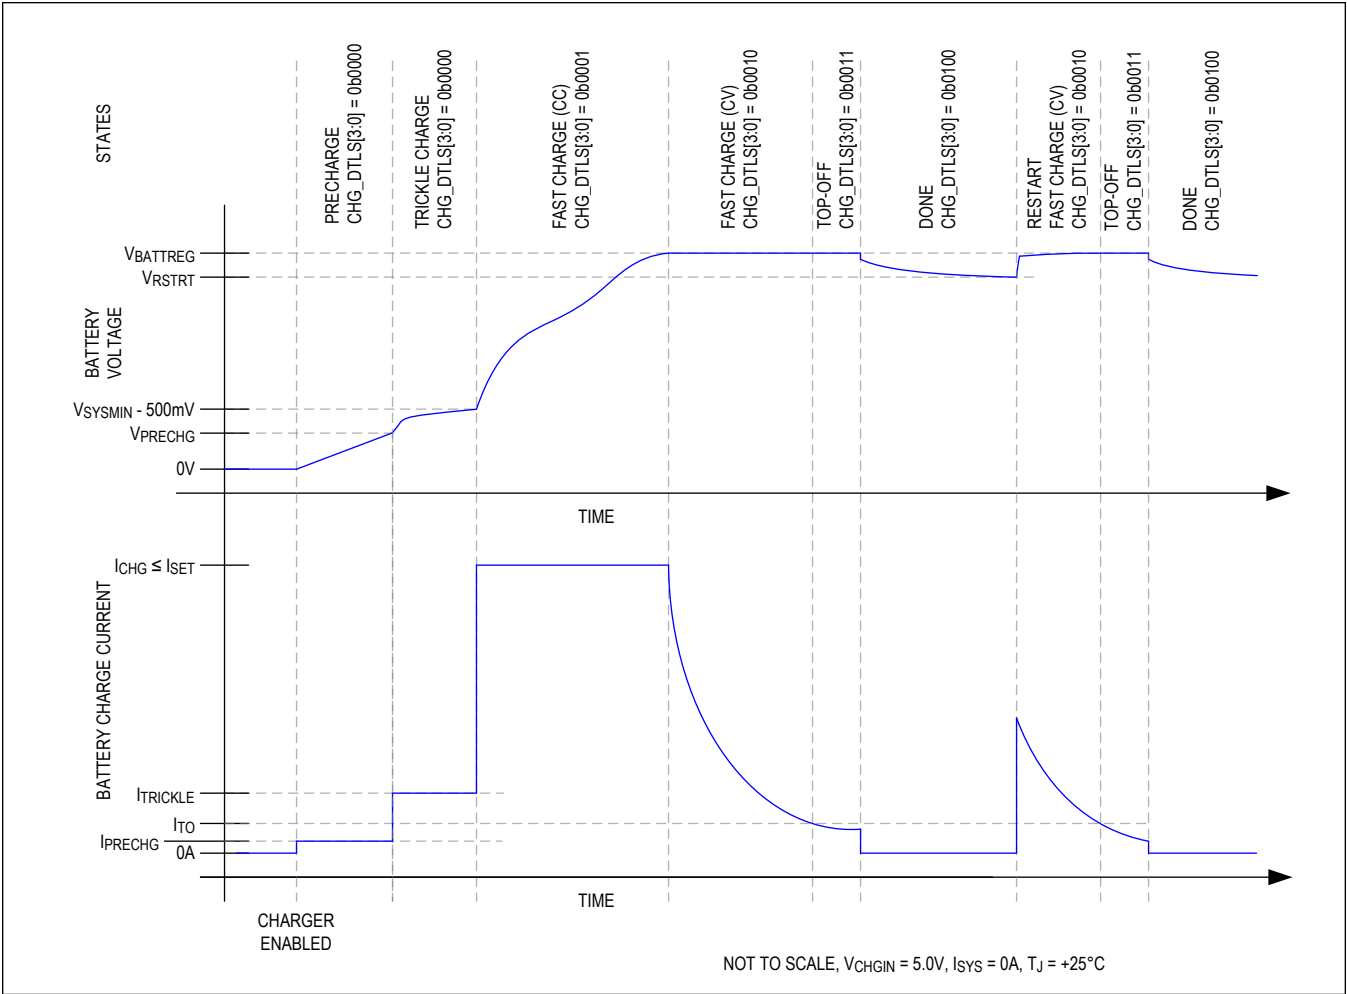
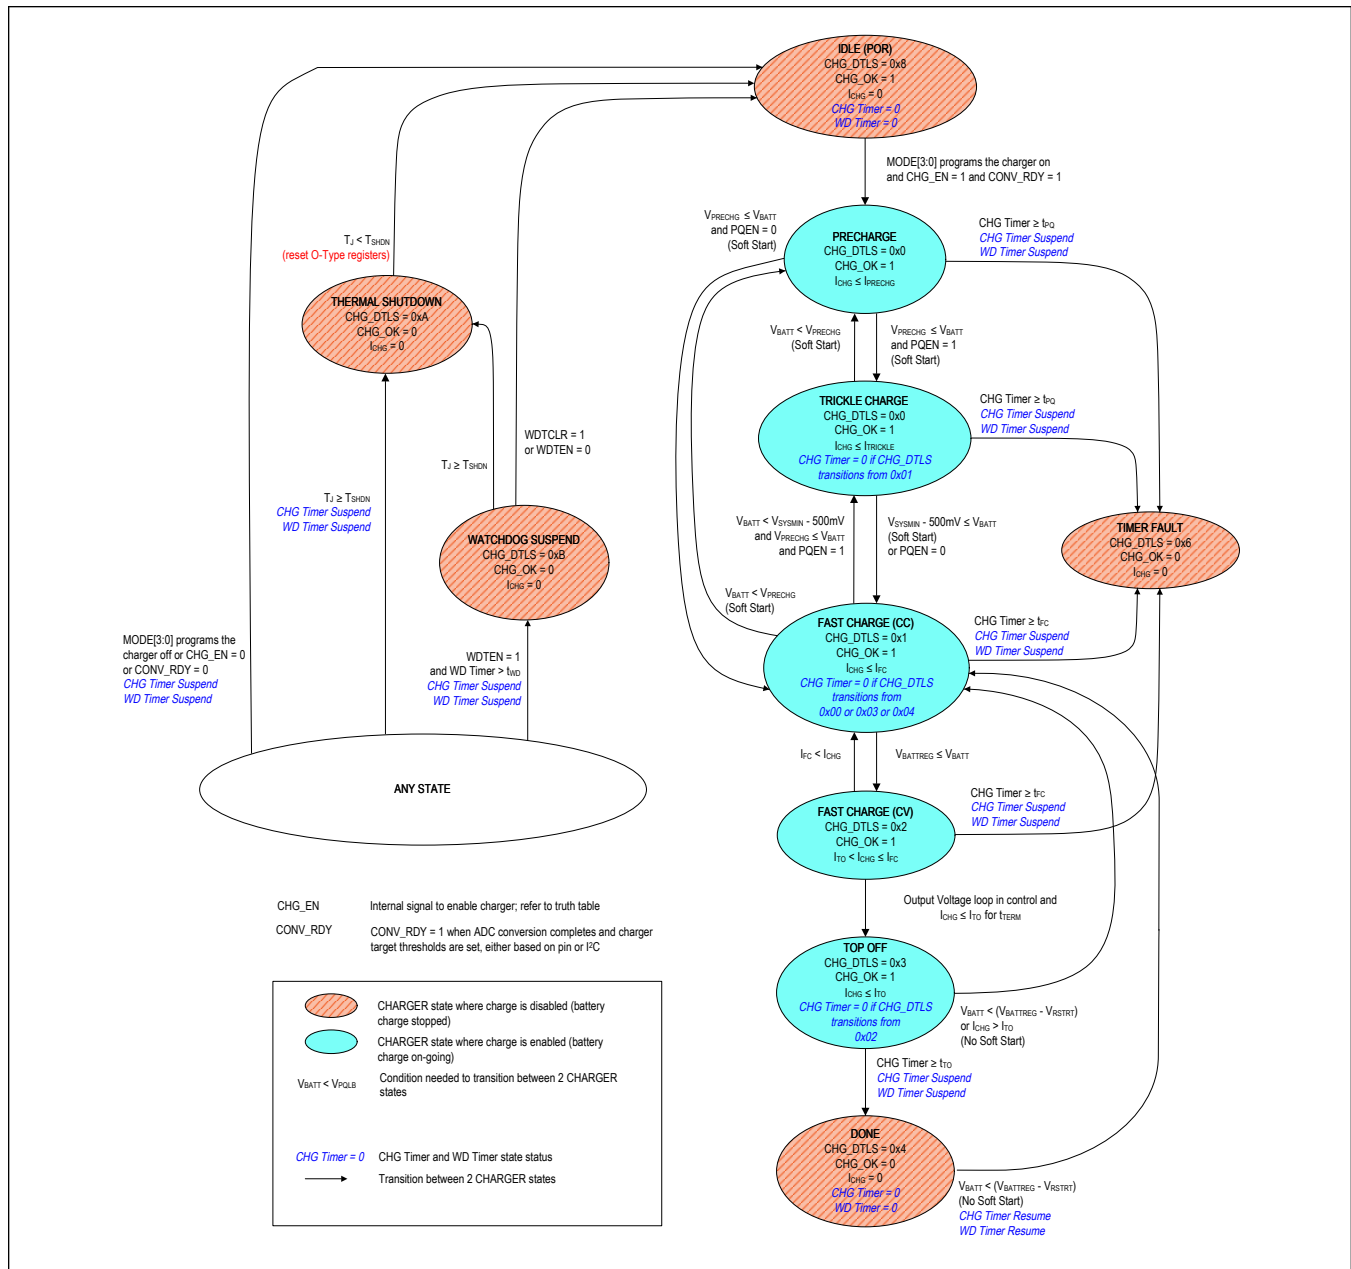

Figure 1. Li Battery Charge Profile
Figure 2. Charger State Diagram
The MAX77960/MAX77961 utilize several charging states to safely and quickly charge batteries as shown in Figure 1 and Figure 2. Figure 1 shows an exaggerated view of a Li+/Li-Poly battery progressing through the following charge states when there is no system load and the die and battery are close to room temperature: Prequalification → Fast-charge → Top-off → Done.
From any state shown in Figure 2 except thermal shutdown, the no input power or charger disabled state is entered whenever the charger is programmed to be off or the charger input CHGIN is invalid. After being in this state for t_{SCIDG}, CHG_DTLS is set to 0x08 and CHG_OK is set to 1. A CHG_I interrupt is generated if CHG_OK was 0 previously.
As shown in Figure 2, the charger enters the precharge state when the battery voltage is less than V_{PRECHG} . After being in this state for t_{SCIDG} , a CHG_I interrupt is generated if CHG_OK was 0 previously, CHG_OK is set to 1 and CHG_DTLS is set to 0x00. In the precharge state, charge current into the battery is I_{PRECHG} .
As shown in Figure 2, the charger state machine is in trickle charge state when $V_{PRECHG} < V_{BATT} < V_{SYSMIN} - 500\text{mV}$. After being in this state for t_{SCIDG} , a CHG_I interrupt is generated if CHG_OK was 0 previously, CHG_OK is set to 1 and CHG_DTLS = 0x00.
As shown in Figure 2, the charger enters the fast-charge constant current (CC) state when $V_{SYSMIN} - 500\text{mV (typ)} < V_{BATT} < V_{BATTREG}$. After being in the fast-charge CC state for t_{SCIDG} , a CHG_I interrupt is generated if CHG_OK was 0 previously, CHG_OK is set to 1 and CHG_DTLS = 0x01.
As shown in Figure 2, the charger enters the fast-charge constant voltage (CV) state when the battery voltage rises to V_{BATTREG} from the fast-charge CC state. After being in the fast-charge CV state for t_{SCIDG}, a CHG_I interrupt is generated if CHG_OK was 0 previously, CHG_OK is set to 1 and CHG_DTLS = 0x02.
In the fast-charge CV state, the battery charger maintains V_{BATTREG} across the battery and the charge current is less than or equal to I_{FC}. As shown in Figure 1, charger current decreases exponentially in this state as the battery becomes fully charged.
As shown in Figure 2, the top-off state can only be entered from the fast-charge CV state when the charger current decreases below I_{TO} for t_{TERM}. After being in the top-off state for t_{SCIDG}, a CHG_I interrupt is generated if CHG_OK was 0 previously, CHG_OK is set to 1, and CHG_DTLS = 0x03. In the top-off state the battery charger maintains V_{BATTREG} across the battery and typically the charge current is less than or equal to I_{TO}.
As shown in Figure 2, the battery charger enters its done state after the charger has been in the top-off state for t_{TO} . After being in this state for t_{SCIDG} , a CHG_I interrupt is generated only if CHG_OK was 0 previously, CHG_OK is set to 0 and CHG_DTLS = 0x04.
The battery charger provides both a charge timer and a watchdog timer to ensure safe charging. As shown in Figure 2, the charge timer prevents the battery from charging indefinitely. The time that the charger is allowed to remain in its prequalification states is t_{PQ} . The time that the charger is allowed to remain in the fast-charge CC and CV states is t_{FC} , which is programmable with FCHGTIME. Finally the time that the charger is in the top-off state is t_{TO} which is programmable with TO_TIME. Upon entering the timer fault state a CHG_I interrupt is generated without a delay, CHG_OK is cleared and CHG_DTLS = 0x06.
The charger is off in the timer fault state. The charger can exit the timer fault state when the charger is programmed to be off then on again through the MODE bits or when DISQBAT pin is toggled from L-H-L. Alternatively, the charger input can be removed and reinserted to exit the timer fault state (see the ANY STATE bubble in Figure 2).
The battery charger provides both a charge timer and a watchdog timer to ensure safe charging. As shown in Figure 2, the watchdog timer protects the battery from charging indefinitely in the event that the host hangs or otherwise cannot communicate correctly. The watchdog timer is disabled by default with WDTEN = 0. Enable the feature by setting WDTEN = 1. With watchdog timer enabled, the host controller must reset the watchdog timer within the timer period (t_{WD}) in order for the charger to operate properly. Reset the watchdog timer by programming WDTCLR = 0x01.
As shown in Figure 2, the state machine enters the thermal shutdown state when the junction temperature (T_J) exceeds the device's thermal shutdown threshold (T_{SHDN}). When T_J is close to T_{SHDN} , the charger would have already folded back the input current to 0A, (see the Thermal Foldback section for more details), so the charger and the DC-DC are effectively off. Upon entering this state, CHG_I interrupt is generated if CHG_OK was 1 previously, CHG_OK is cleared, and CHG_DTLS = 0x0A.